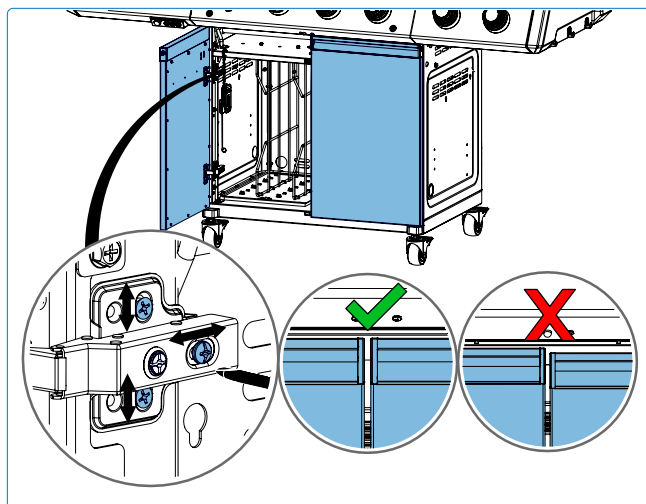

Fig. 21
4. Adjust the hinge screws to align the cabinet doors so they are level with each other (**Fig.21**).